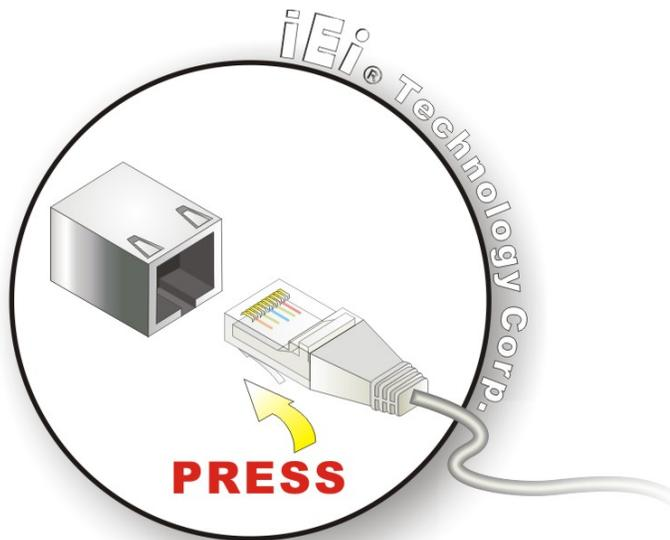

Figure 4-16: LAN Connection
Step 5: Align the connectors. Align the RJ-45 connector on the LAN cable with one of the RJ-45 connectors on the IMB-Q670. See **Figure 4-16**.